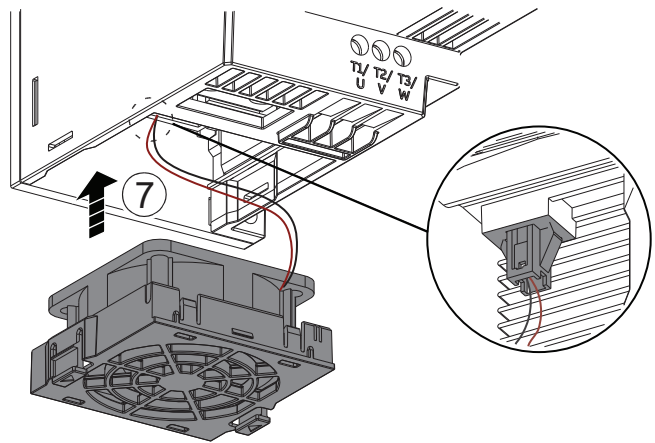

Fig. 71 — Connect Fan To Power
7. Connect the fan power cable. (See Fig. 71.)